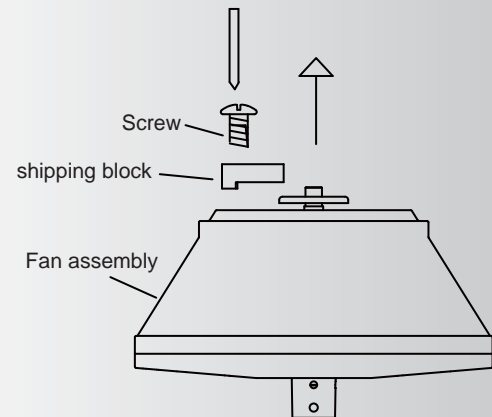

Fig. 5
Step 1. Remove the fan motor and housing assembly from the protective plastic bag. Place the fan assembly into the lower pad with the bottom of the motor facing up. (The lower foam pad serves as a holder for the fan during the first stages of assembly). Remove the plastic motor shipping blocks and discard. (Fig. 5)